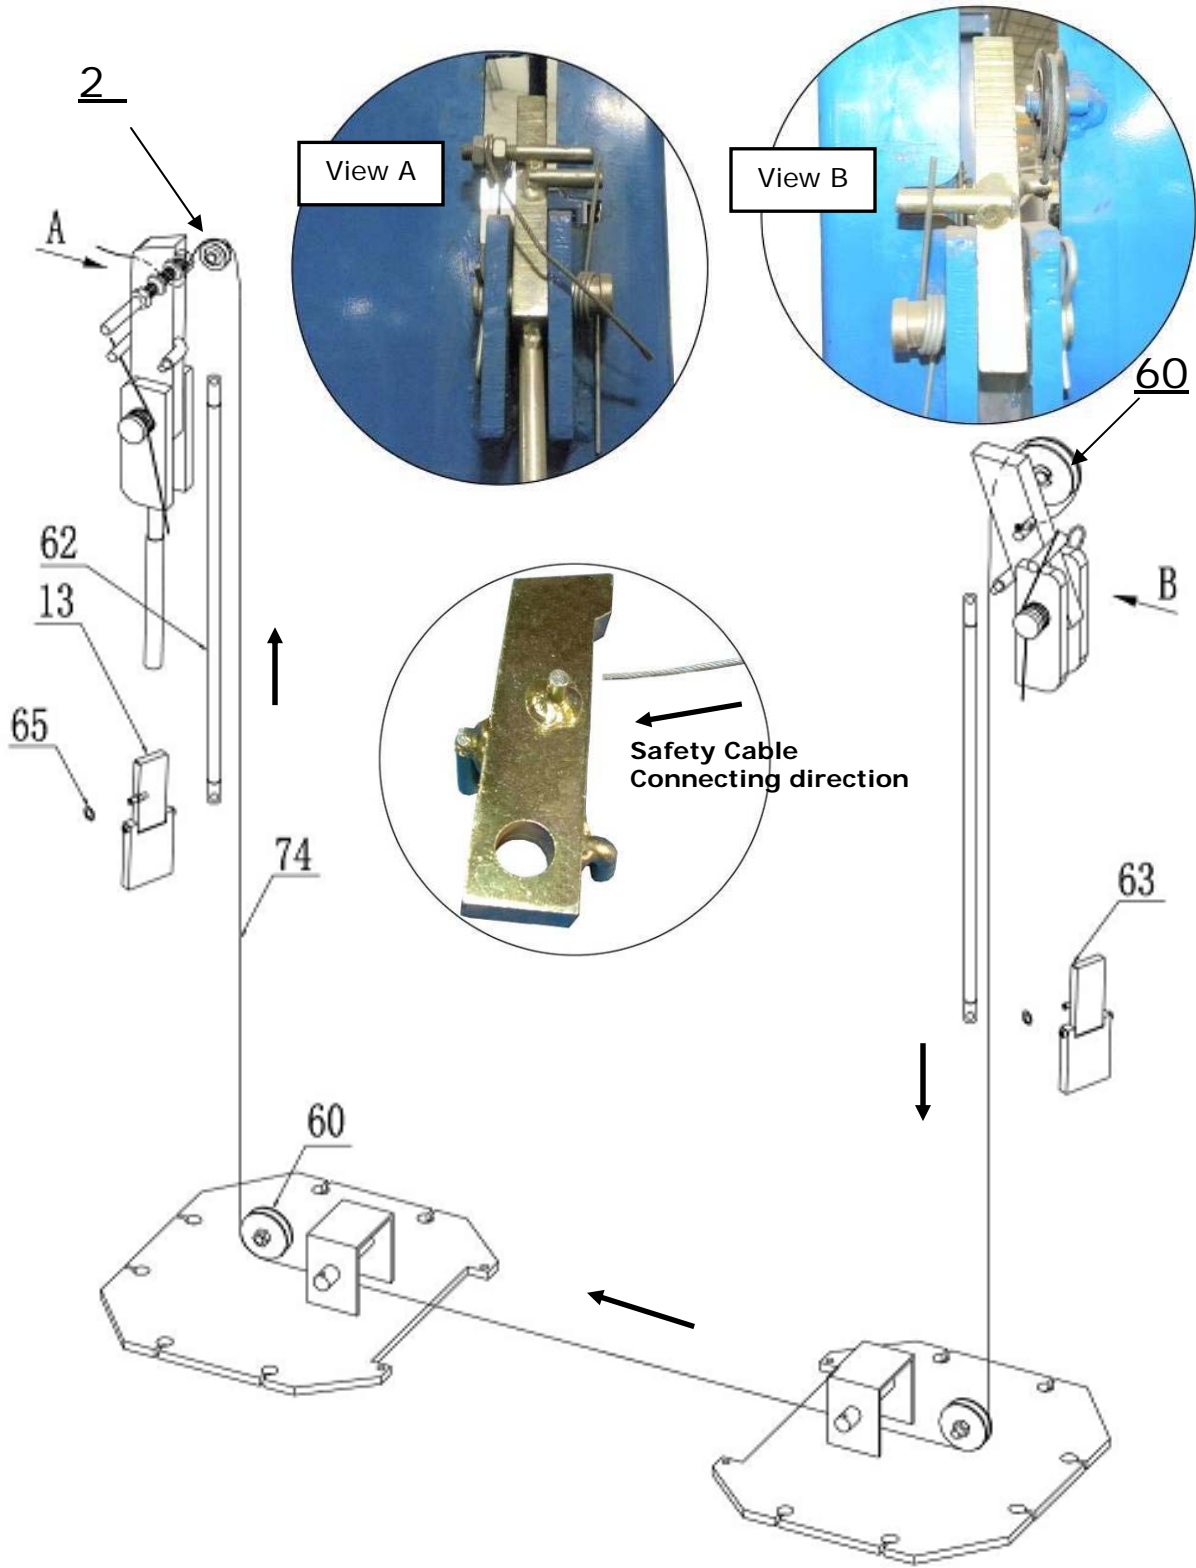

**Fig. 28**
**K. Install Hydraulic Power Unit and Oil Hose Assembly (See Fig. 28).**